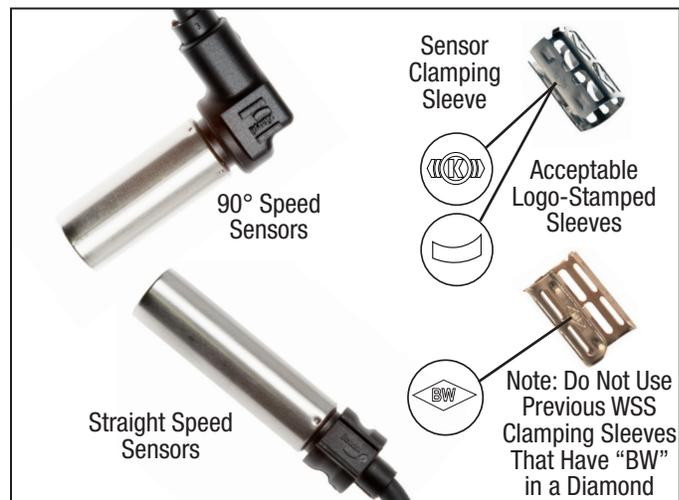

Figure 5 – Bendix® WS-24™ Wheel Speed Sensors
- **Wheel Speed Sensors (WSS):** Located at selected hubs, wheel speed sensors detect the rotation of individual wheels and send an electrical signal to the ECU proportional to the rotational velocity. See Figure 5.
See *Figure 5*. Wheel speed data is provided to the TABS-6 Advanced MC module by the Bendix® WS-24™ wheel speed sensors. Typically, the WS-24 wheel speed sensor is installed in a mounting block that is welded to the axle housing. The WS-24 wheel speed sensors are protected by a stainless steel sheath. They are designed to be used with stainless steel clamping sleeves (sometimes referred to as a “retainer bushing”, “friction sleeve”, or “clip”) (See *Figure 5*). The clamping sleeve provides a friction fit between the mounting block bore and the WS-24 sensor.
2. Install the new clamping sleeve fully into the block, with the retaining tabs toward the inside of the vehicle. Please note that Bendix WS-24 wheel speed sensors must use the correct clamping sleeve to avoid problems associated with reduced retention force, such as sensor movement and resulting in ABS trouble codes. See *Figure 5*.